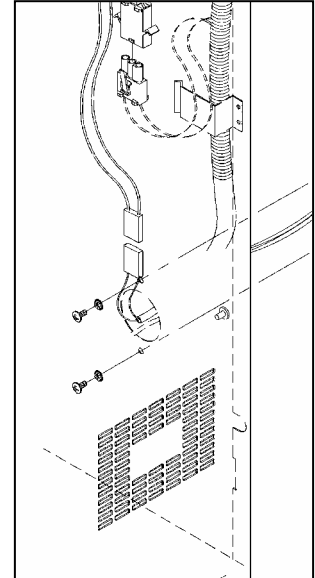

Figure 2
- d) The other harness is equipped with two 3-pin connectors. Only one of these can be connected. Connect it to the smaller 3-pin inline connector on the power adapter harness that was just installed (figure 2).